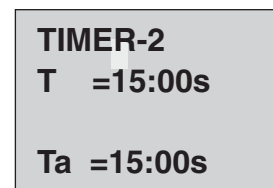

Fig. 7
6. Press arrow up/down keys ▲ or ▼ to select the next parameter to change (Timer-2). Repeat steps 4 and 5 to change the Timer-2 parameters. See figure 7.